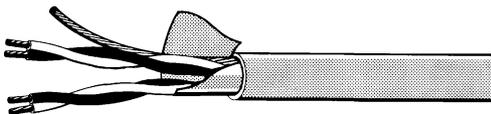

Figure 3.
- If **SHIELDED CABLE** is used, **DO NOT** use the shield as a **negative connection** & do not allow the shield to make contact with Negative, Ground, or any other wiring or metalwork within the system. Shields should only be terminated to a Protective Earth at ONE END of the cable. ❶ See “System Earthing” below. If no suitable earth point is available at a module location, the shield can be looped back to the shield of the previous length of cable. ❷
- **LAN POWER CABLING.** Separate heavy duty Figure 8 cable (24 / 0.20 recommended) should also be run for “POS” & “NEG” over longer distances if used for powering modules. e.g. LCD Terminals. **Figure 3.**